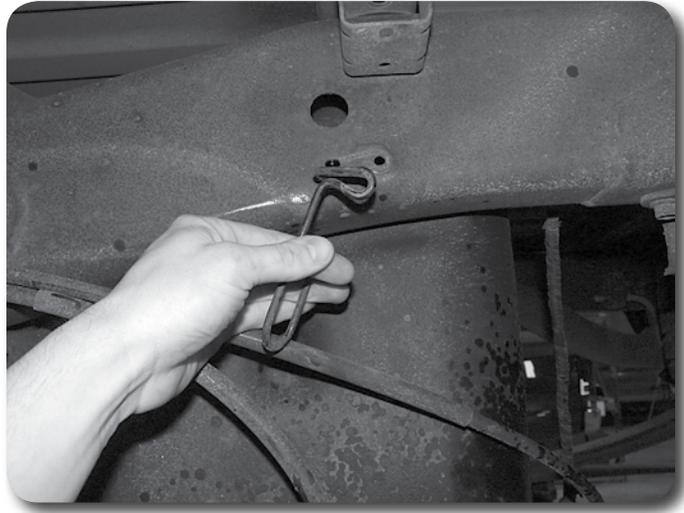

Figure 19
69. Remove the parking brake cable retaining the ring from the driver's side frame rail **Figure 19**. Remove the driver's side parking brake cable from the ring and reinstall the ring on the frame with the passenger's side cable still in it.